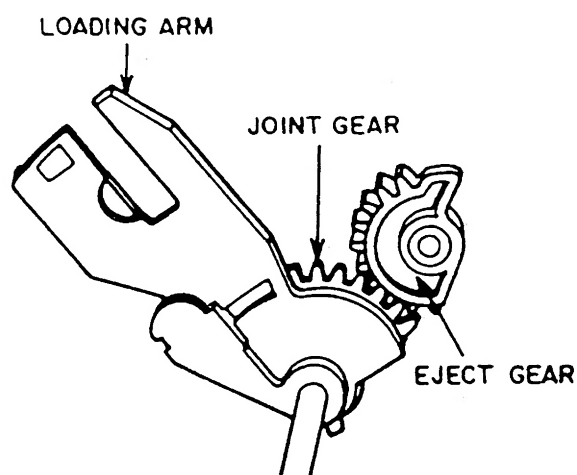

Fig. 3-3
- 2) Hold the LOADING ARM (T) and turn it 30 degrees clockwise, then pull out the shaft's left end from the bracket. To avoid damaging the JOINT GEAR and EJECT GEAR, take special care when removing. (Refer Fig. 3-3)